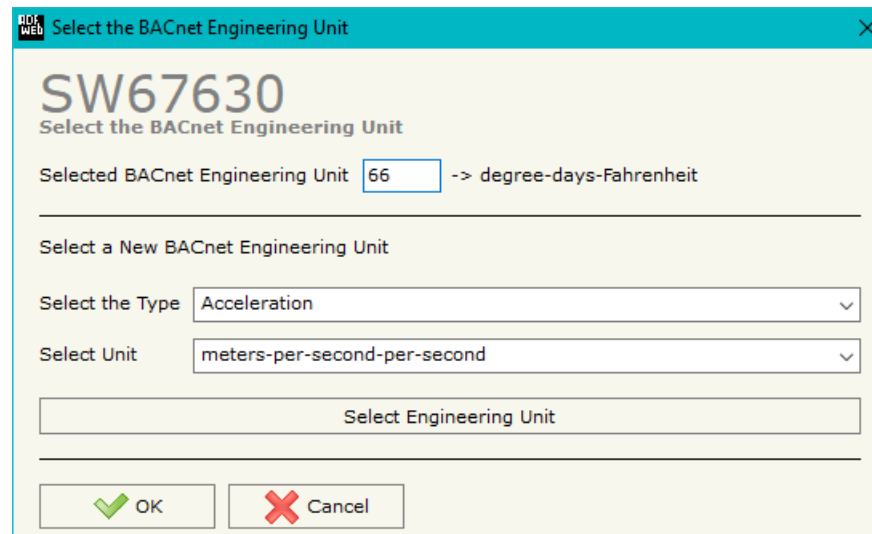

Figure 6: "Select the BACnet Engineering Unit" window
- In the field “**Eng. Unit**”, with double click the window “*Select the BACnet Engineering Unit*” appears (Fig. 6);